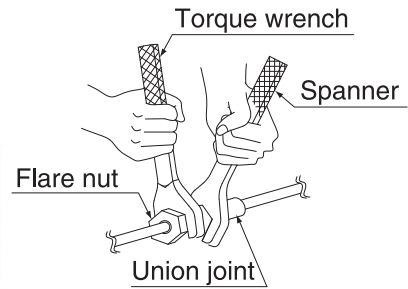

Fig. 2
- When connecting the pipings to the air conditioner, make sure to use a spanner and a torque wrench as shown in **Fig. 2**.